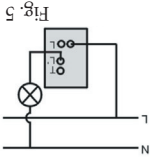

Fig. 5
1. To replace a one way switch. (See Fig.5)